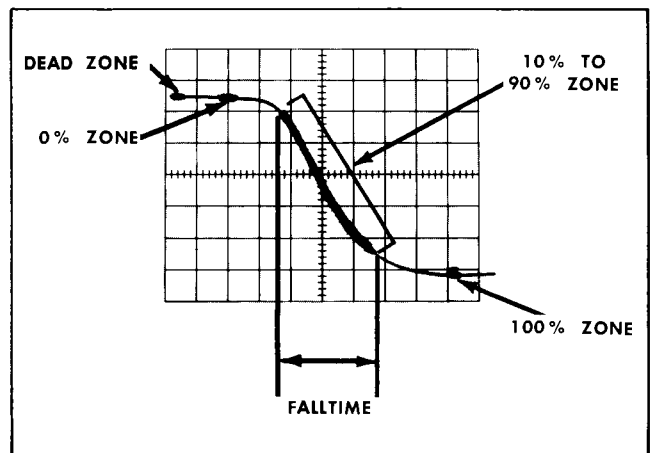

Fig. 2-4. Falltime measurement.
1. Adjust the time-base plug-in controls to trigger on the negative slope of the pulse. Place the 0% zone on the waveform peak. Set the 100% zone to the lowest point on the waveform (see Fig. 2-4).